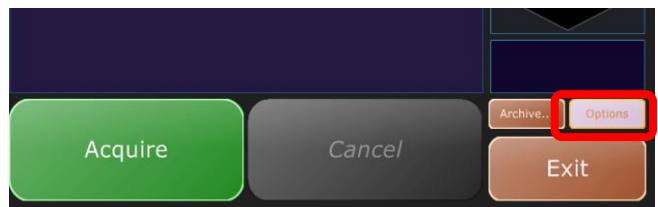

Figure 1
- a. Select *Options* from the acquisition screen. *Figure 1*